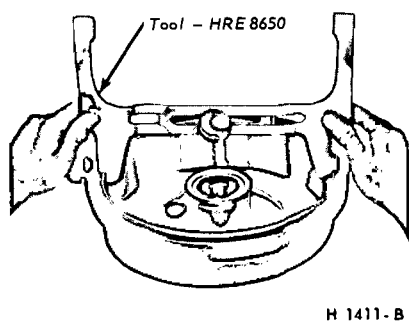

FIG. 11—Measuring Drum
1. Using Rotunda Tool HRE 8650, (Fig. 11) determine the inside diameter of the drum braking surface.